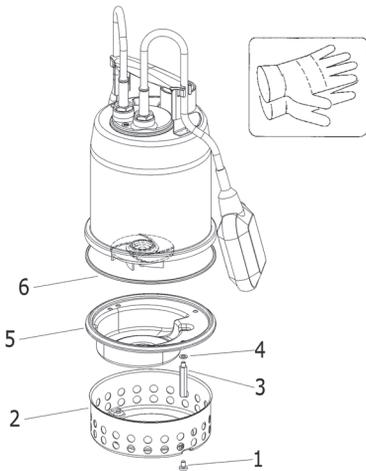

FIG. 9 • DRAIN-INOX 90
7.2. ELEKTROPUMPE DRAIN-INOX 90 (ABB. 9)